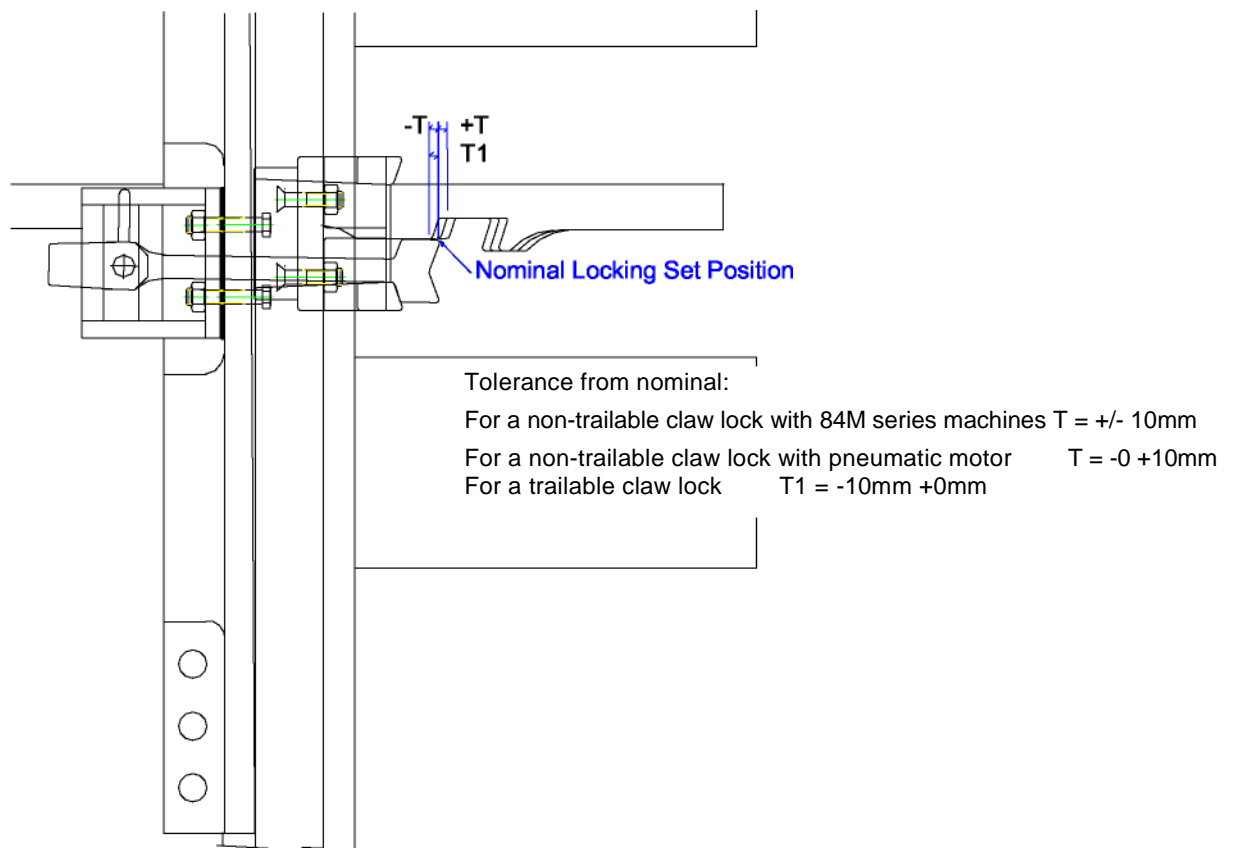

Figure 1.11 – Claw lock locking set point
5. Close the switch closest to the machine and ensure that the claw lock drive bar is positioned at the nominal locking set point shown in figure 1.11
Close the switch closest to the motor and ensure that the operating bar is positioned at the previously adjusted locking set dimension. Refer to figure 1.11.
2. Check the position of the drive bar relative to the claw - the “locking set dimension”. This should be as shown in figure 1.11.
5. Check the “locking set dimension” for the opposite switch. Again this should be as shown in figure 1.11. If this dimension is not correct to within the tolerances shown, refer to Clause 3 ‘Troubleshooting’.